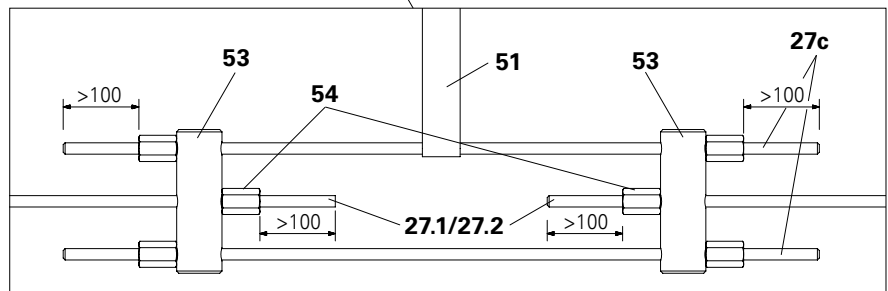

Fig. A7.05a
- Check projecting tie rod (**27b**) – dimension > 100 mm, 6x – in the tension system connector. (Fig. A7.05a)